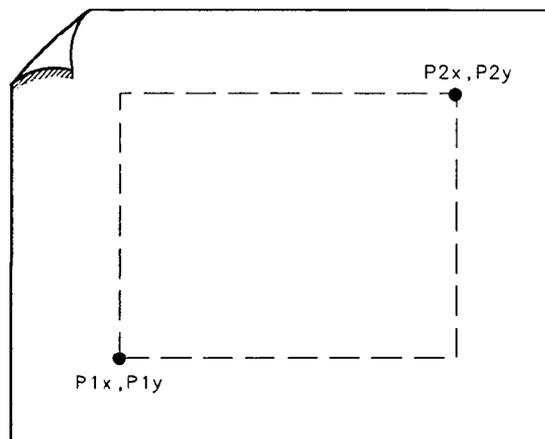

Figure 4-9. P1 and P2 Coordinates
3. Know how to select the scaling points on your plotter. The scaling points (referred to as the P1 and P2 plotter coordinates) define the lower-left and upper-right corners of the plot. See Figure 4-9. These coordinates define the size of the plot. Table 4-3 shows the scaling points for several Hewlett-Packard plotters.